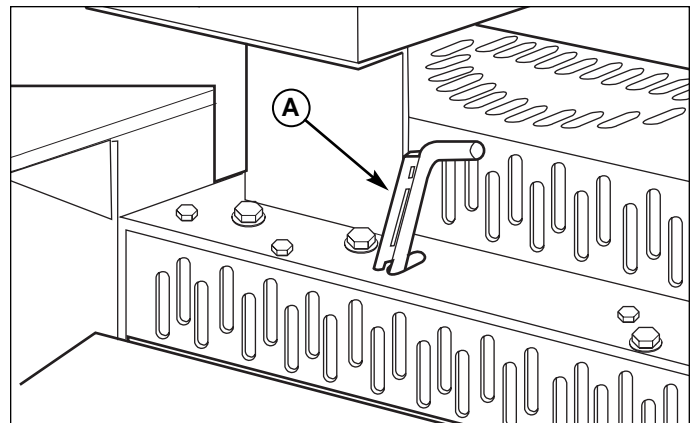

Figure 3. Hydraulic System By-Pass
2. To disengage the transmissions (free-wheel position), lift the hydraulic release levers (A, Figure 3) located in front of the transmission fan screen. Lock into position shown in Figure 3.